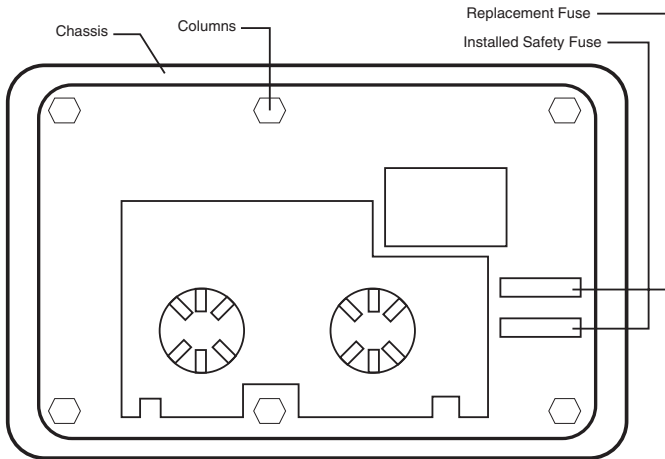

Figure 25
- Replace the fuse (Figure 25) and reassemble the instrument.